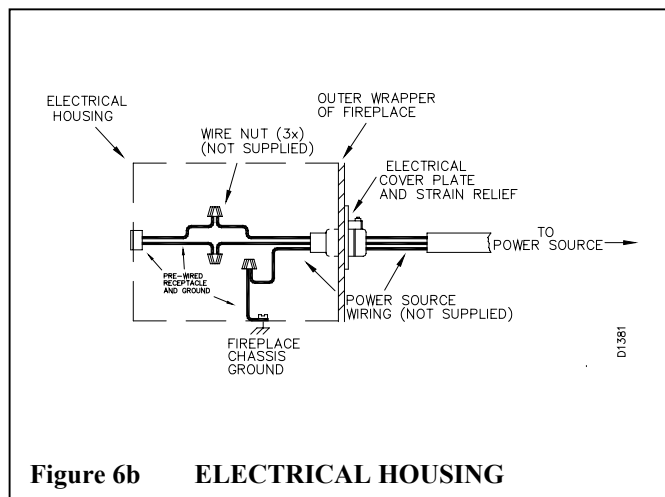

Figure 6b ELECTRICAL HOUSING
- Slide all wiring connections in the electrical housing as shown in figure 6b.